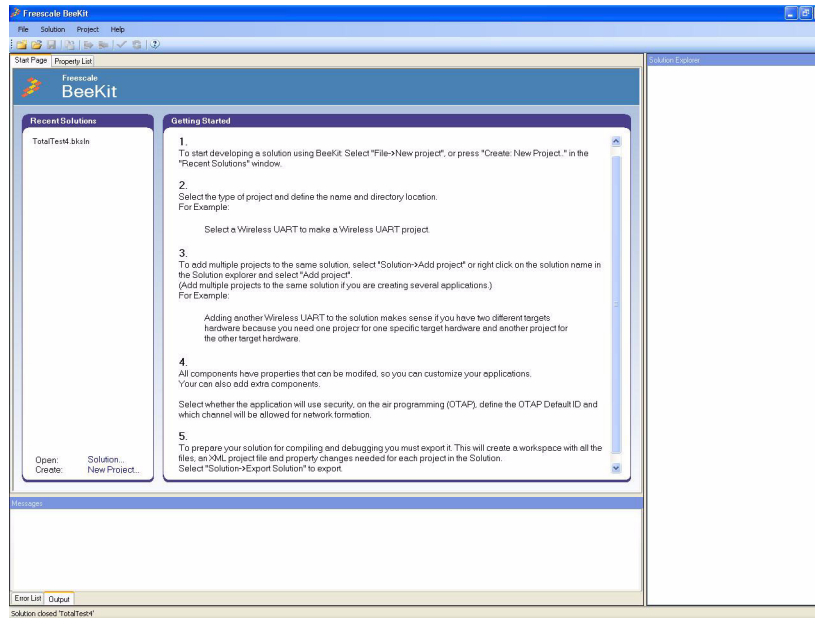

Figure 2. BeeKit Graphical User Interface
1. Launch the BeeKit GUI and the BeeKit main window appears as shown in Figure 2.